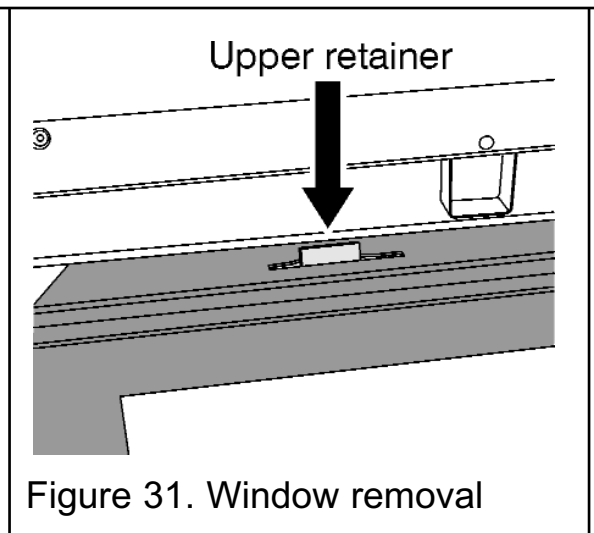

Figure 31. Window removal
3. With both clamps released, gently pull the base of the window panel forward. Hold the window panel base and lift upward until clear of the two upper window retainers (See figure 31).